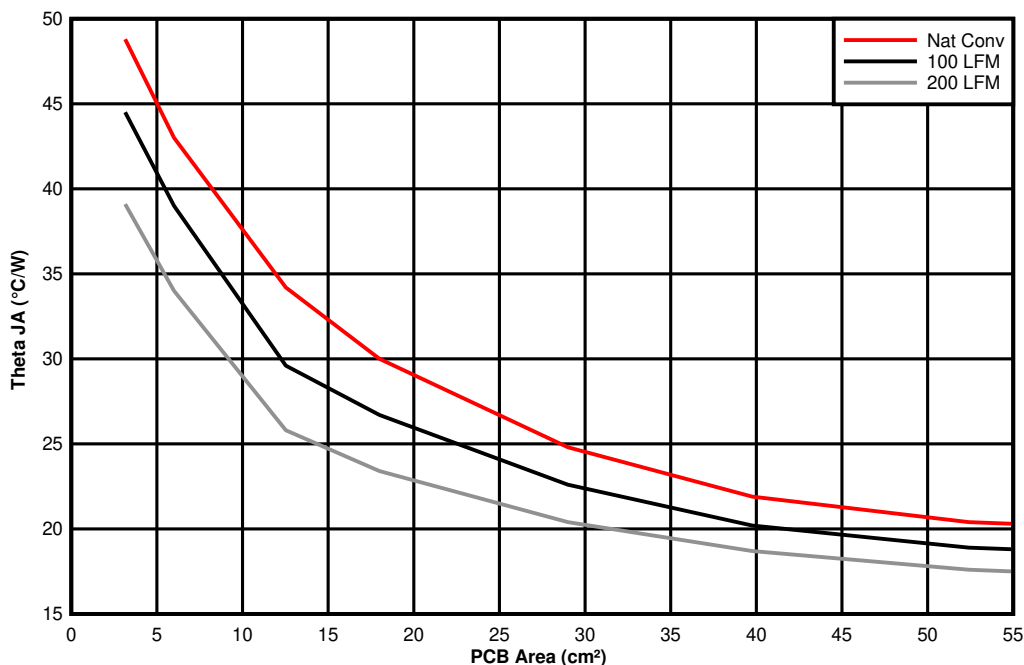

图 11-5. θ_{JA} vs PCB Area
The amount of PCB copper as well as airflow effects the thermal performance of the device. Figure 11-5 shows the effects of copper area and airflow on the junction-to-ambient thermal resistance ($R_{\theta JA}$) of the TPSM5601R5Hx. The junction-to-ambient thermal resistance versus PCB area is plotted for a 4-layer PCB.
3. Reference Figure 11-5 to determine the minimum required PCB area for the application conditions.